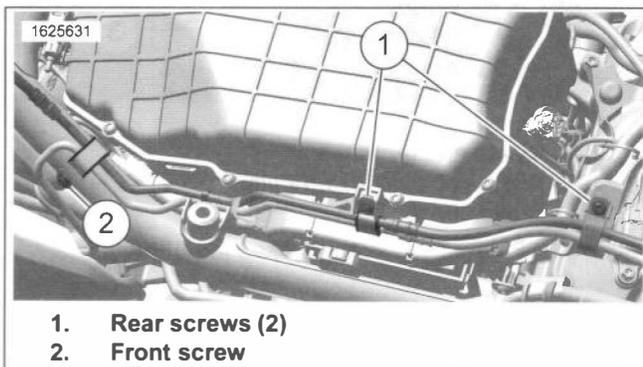

Figure 3-37. Tighten Screws
6. See Figure 3-37. Tighten clamp screws.